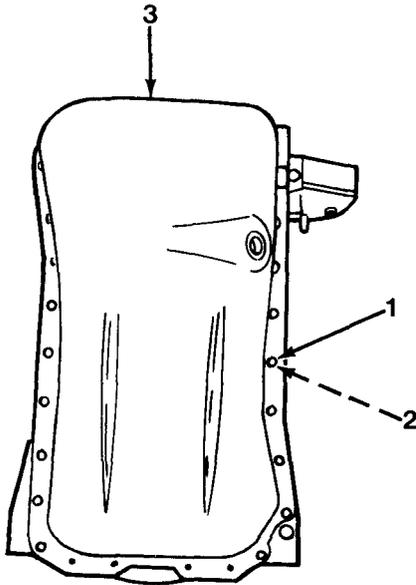

Figure 6-1
1. Drain oil pan (3, Figure 6-1) (refer to page 3-47).
2. Using a 10 mm socket, remove 24 capscrews (1), washers (2) and oil pan (3, Figure 6-1).